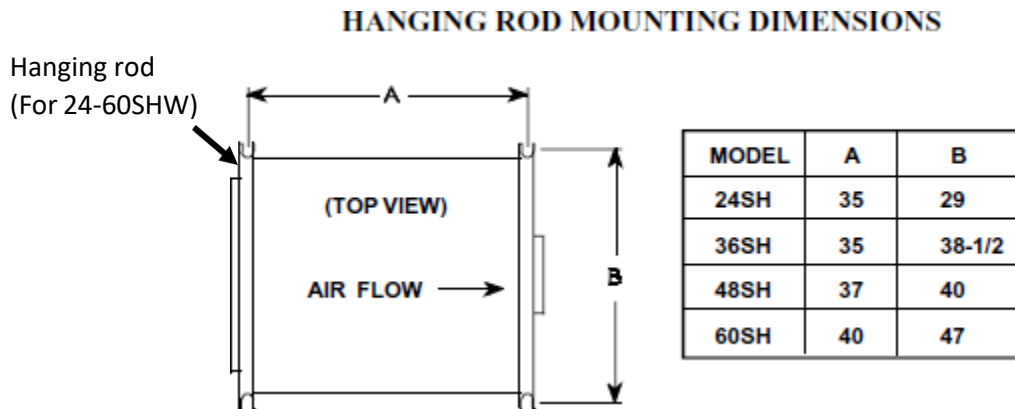

Figure 2
For models 24-60, two (2) mounting rails are supplied on the blower coil unit, as shown in Figure 2. All anchors for mounting the equipment must be placed and sized to ensure a safe and durable installation. When necessary use shims to obtain the proper level. This will ensure that the condensate will drain from the unit.